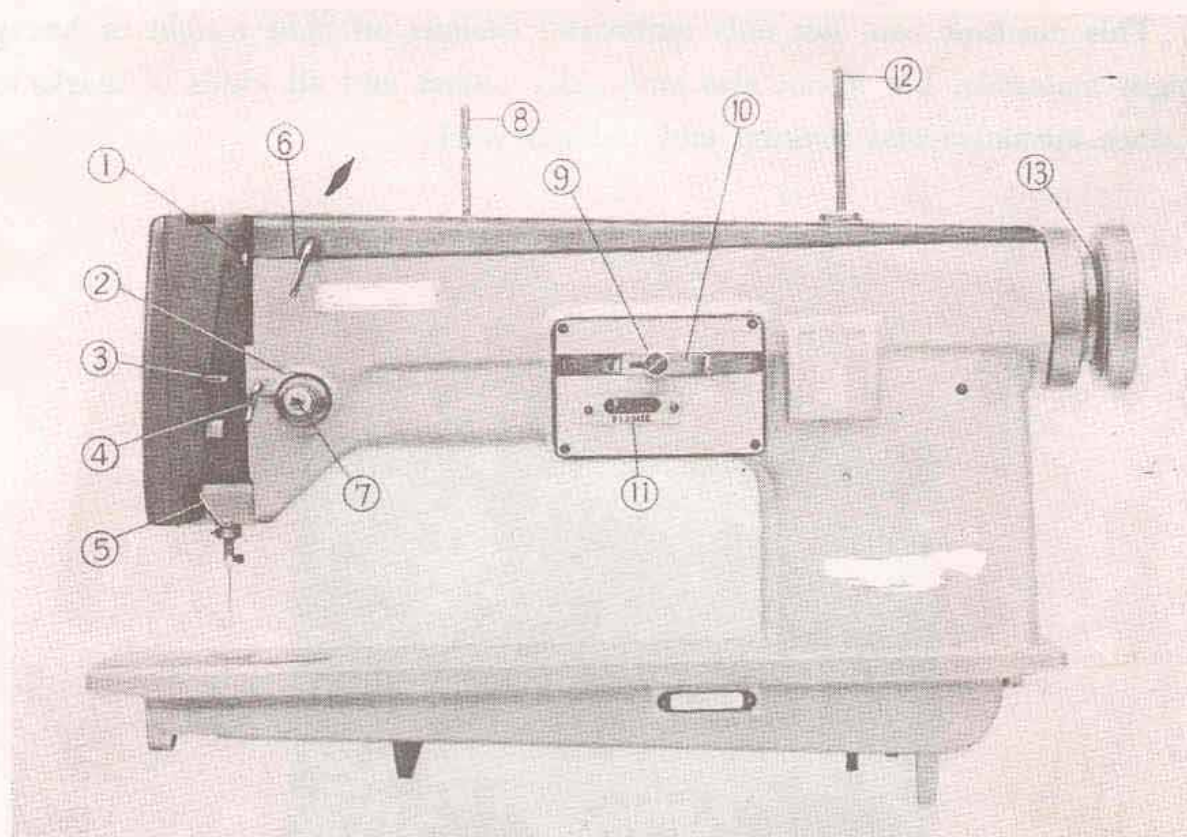
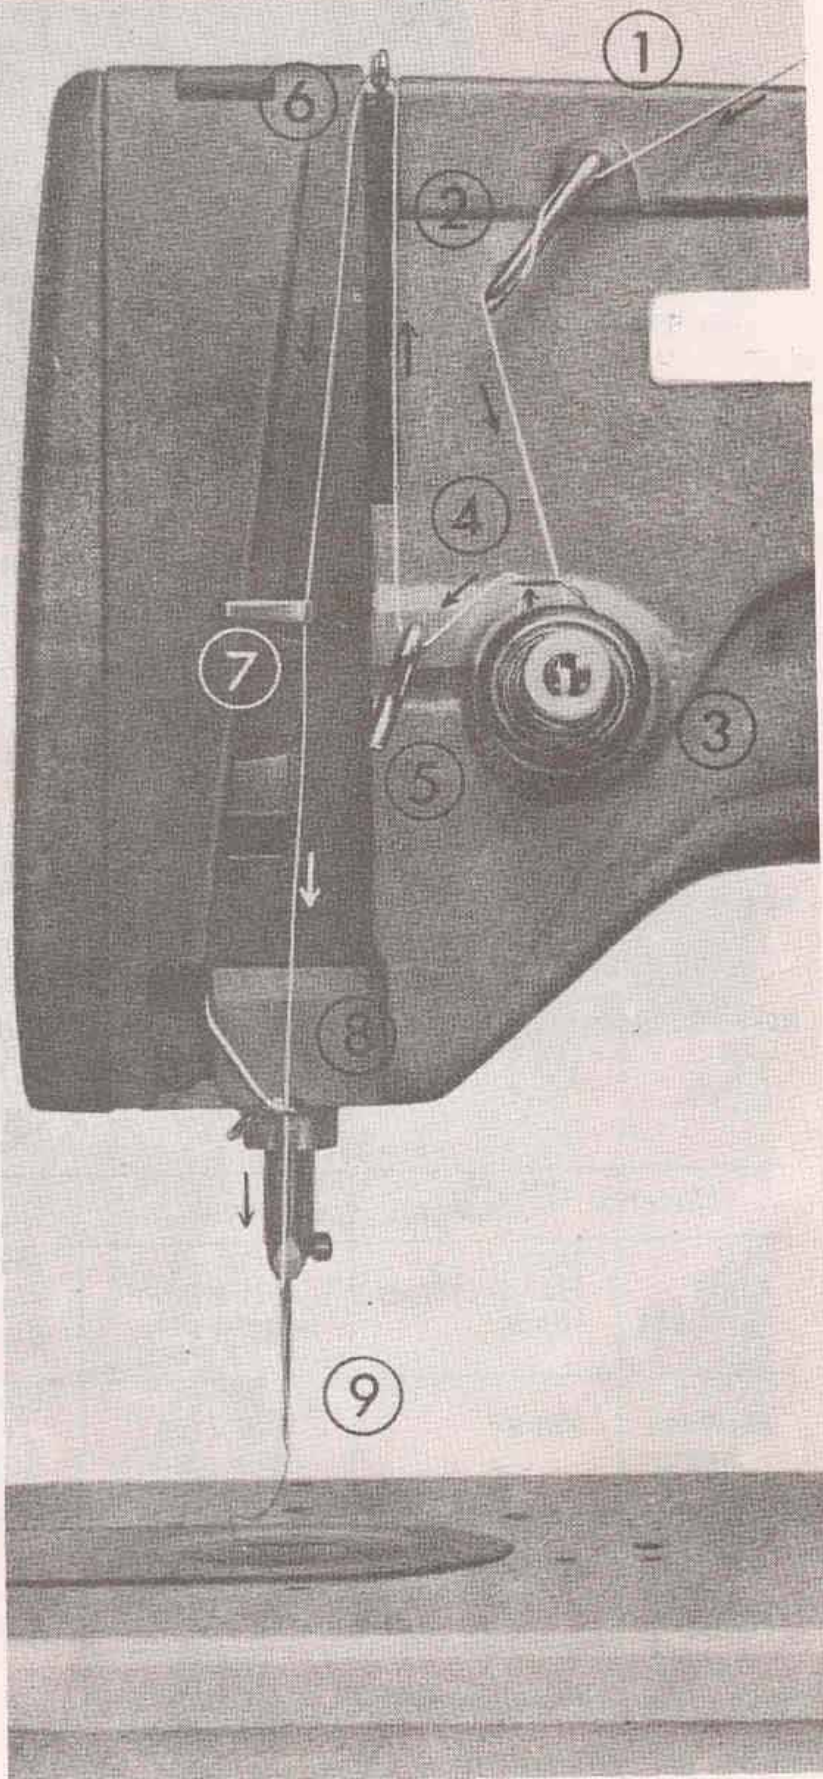

Fig. 2
Fig. 8.
Refer to Fig. 2 for the names of parts of this machine
To pass the needle thread, follow the numerical order as shown in Fig. 8. Start from the needle thread guide pin ①, (not shown in Fig. 8), to the needle ⑨ in order. (Refer to Fig. 2 for complete view)
- ② Three-hole thread eyelet
- ③ Tension disc
- ④ Take-up spring
- ⑤ Thread take-up guide
- ⑥ Thread take-up
- ⑦ Frame thread guide, upper
- ⑧ Frame thread guide, lower
- ⑨ Needle